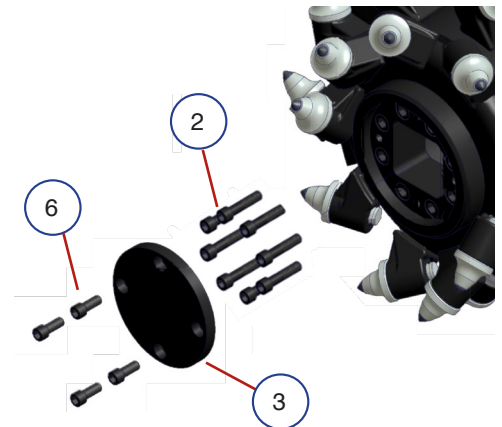

Figure 1. Drum and Drum Cover assembly
2. Now you can install the drum cap using the four M16x40mm bolts. These should be torqued to 269 ft/lbs. **Item 6, figure 1.**